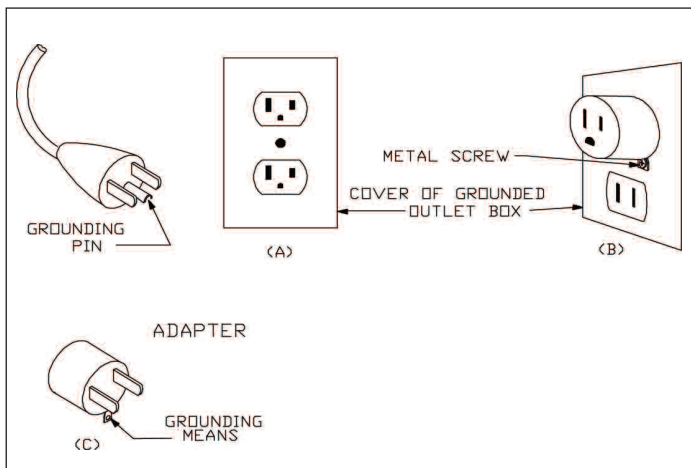

Figure 3
10. Some models are provided with a three blade grounded plug(see Figure 3). If provided with a grounded plug, always connect to a properly grounded outlet only.
1. Heaters are provided with flexible cord with a grounded 2 blade plug (as shown at A in Figure 3) and built-in ON/OFF switch. This heater is for use at 120 V AC only.
2. An adapter as shown at C in Figure 3 is available for connecting three-blade grounding-type plugs to two-slot receptacles. The green grounding plug extending from the adapter must be connected to a permanent ground such as a properly grounded outlet box. The adapter should not be used if a three-slot grounded receptacle is available.